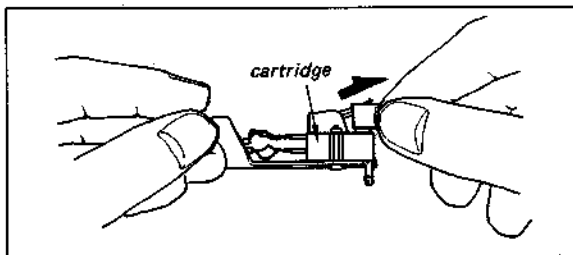

Fig. 2-12. Stylus tip replacement
2. Pull off the worn-stylus tip in the arrow direction in Fig. 2-12, and insert the new stylus tip (ND-133G) into the cartridge.